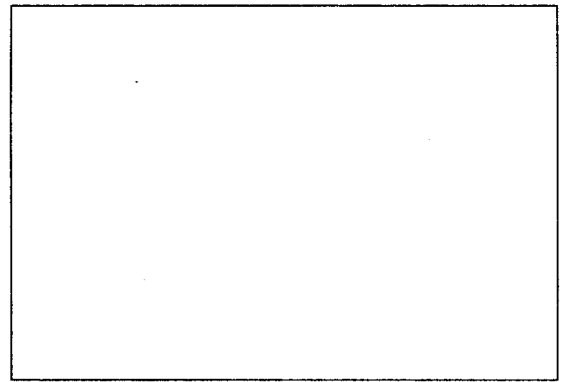

Fig. 5: Mounting the adapter plug.
4.3 Instruments with Recessed Output Jacks (Refer to fig. 5)